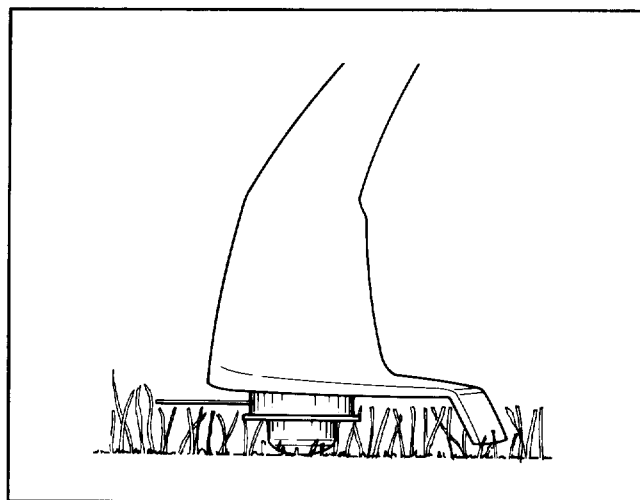

Figure 15
9. **Never drag the trimmer spool cap on the ground while trimming (Fig. 15).** This causes motor overload and spool cap wear.